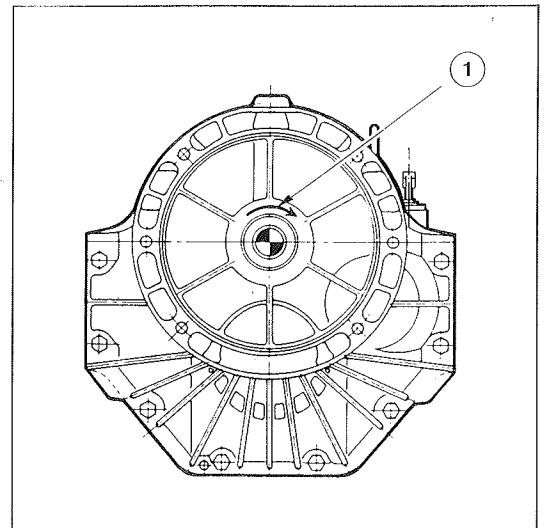

Figure 9
Arrow (Figure 9, item 1) on the transmission housing shows direction of rotation.